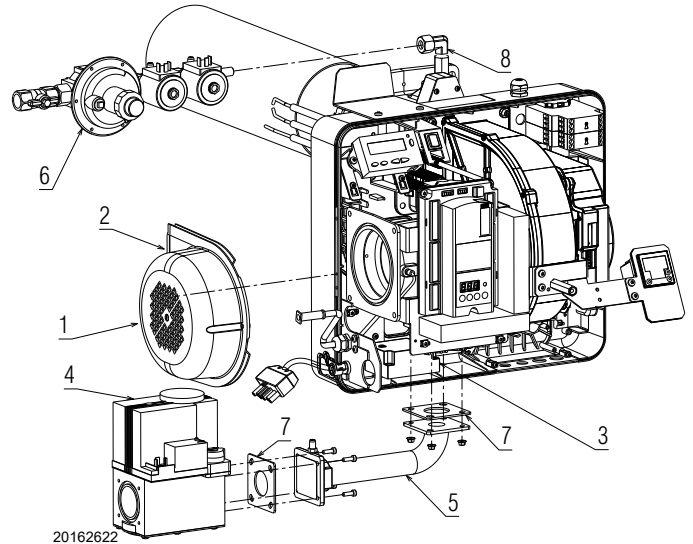

Fig. 19
- fix the valve to the gas pipe 5)(Fig. 19) by interposing the seal 7);
- Assemble the protection 1)(Fig. 19) with the screw 2) supplied as standard;
- fix the gas train unit 4)(Fig. 19) and the gas pipe 5) with the screws, nuts and the washers supplied as standard equipment. Interpose the gaskets 7) as in Fig. 19.
- Assemble the pilot train supplied as standard 6)(Fig. 19);
- insert the pilot train 6)(Fig. 19) on connector 8) and tighten the nut fully home;
Be aware of the presence of the gasket 7)(Fig. 19) and the gas seal.
Use a suitable sealant and check the general gas seal during operation, in particular with respect to tube 5)(Fig. 19).